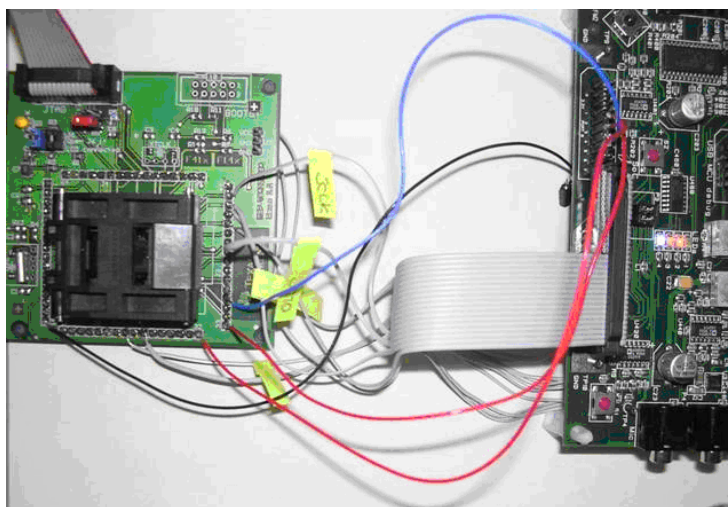
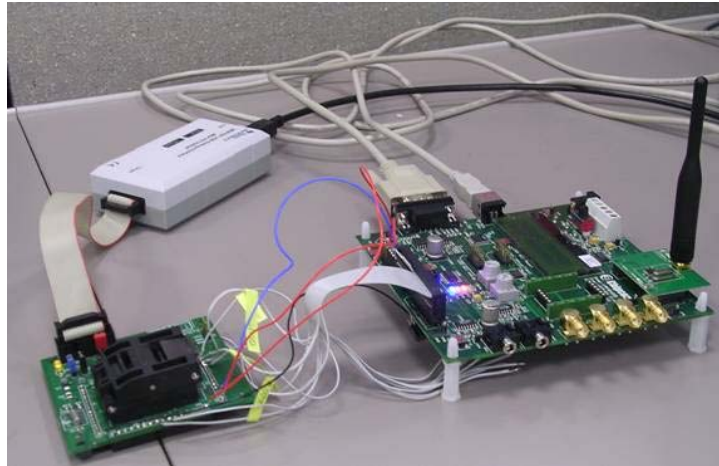

Figure 2. Basic Connection MSP430 and the SmartRF[®]04EB connectors
Figure 3. System overview; Connection of the MCU with the EM through the EB
The microcontroller can be programmed using a JTAG module, MSP430FET, available from TI [3]. The SmartRF[®]04EB is used as a motherboard for the CC1100EM in this example, interfacing the MSP430F169 and the CC1100 radio transceiver. The motherboard (EB) is populated with 0-ohm resistors which connect the signal lines from the EM to the USB MCU and the various peripherals on the EB board. The 0-ohm resistors must be removed to isolate the USB MCU from the EM selectively for all the signals. The signal lines can then be controlled by for instance another MCU development board (MSP-FET430) by connecting to the I/O connectors (P11 I/O_B and P10 I/O_A). The I/O connectors bring out all the signals from the EM connectors. These connectors make it easy to attach additional external circuitry using a ribbon cable to connect a prototyping board (see Figure 2 and Figure 3). The following describes which signals are routed to the external headers (P10 and P11). In order to activate the connection between the prototyping board and the transceiver EM a set of six signals is required (refer to Table 2; highlighted light blue rows). In addition, the prototyping board can also exploit the supply voltage provided by the SmartRF[®]04 motherboard (3.3V, highlighted light yellow rows). The SmartRF[®]04EB can be powered in several different ways; DC, USB, or battery powered. Please refer to the DK user guide [4] to obtain more details about the power supply configuration.